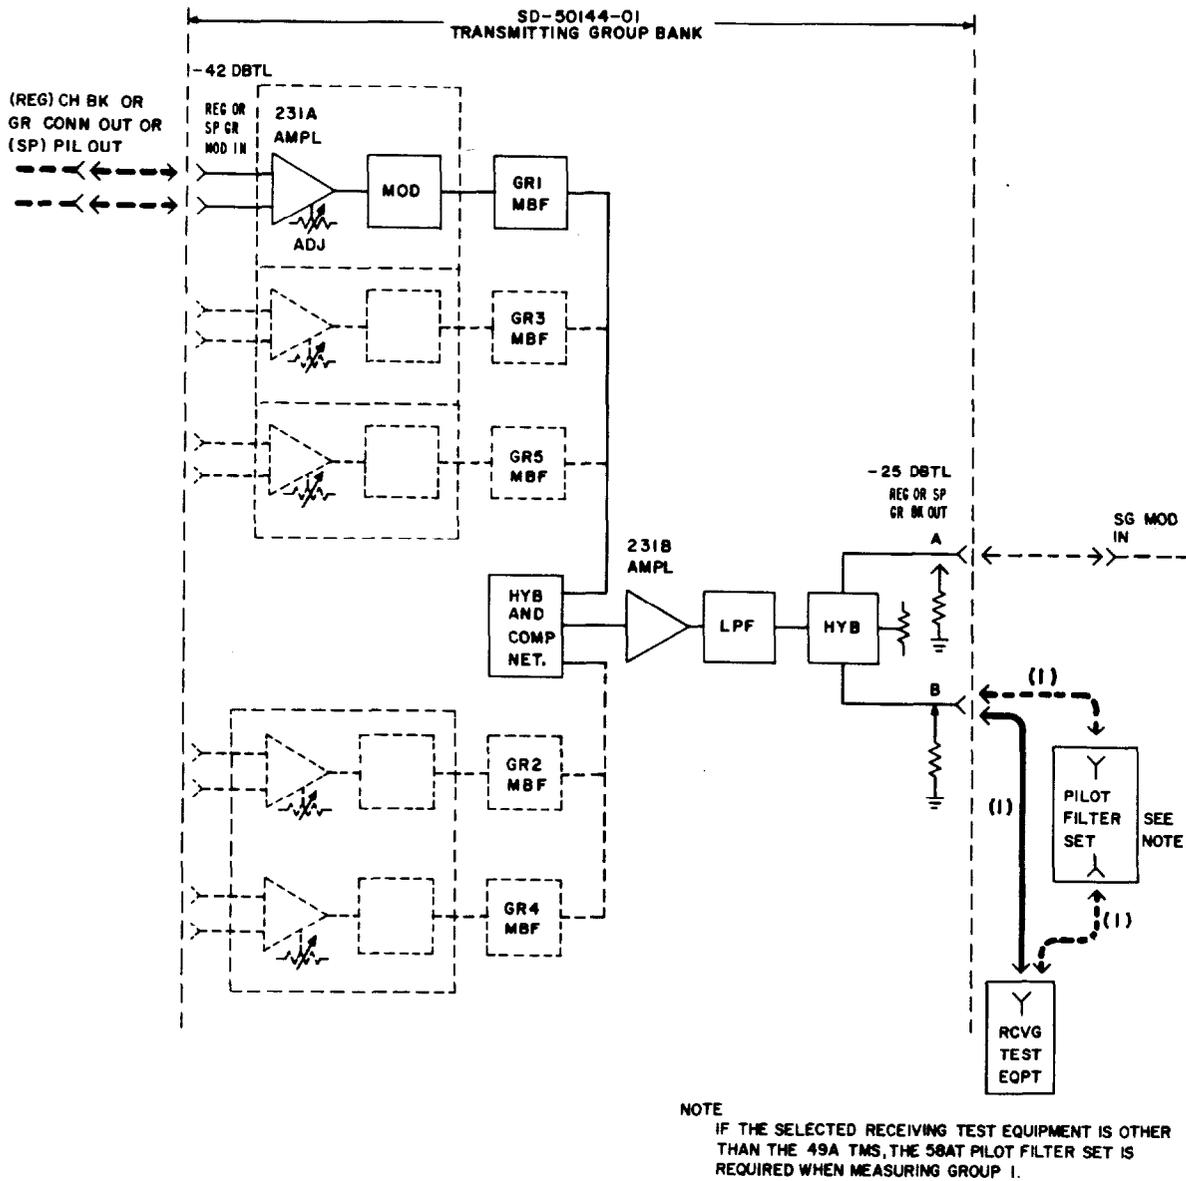

Fig. 1—Group Modulator In-Service Gain Test
- 2 Connect the RTE to the GR BK OUT B jack [patch (1), Fig. 1].